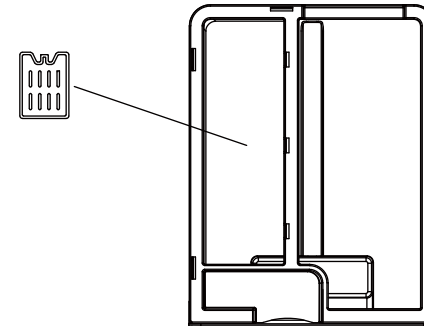

Fig. 3
**NOTED:** Freeze the ice box in refrigerator for 2 hours, then put it into water tank to cool down the water. The wind blowing out will be much cooler. Attention that the ice box shall be placed in the tank at left (Fig.3)